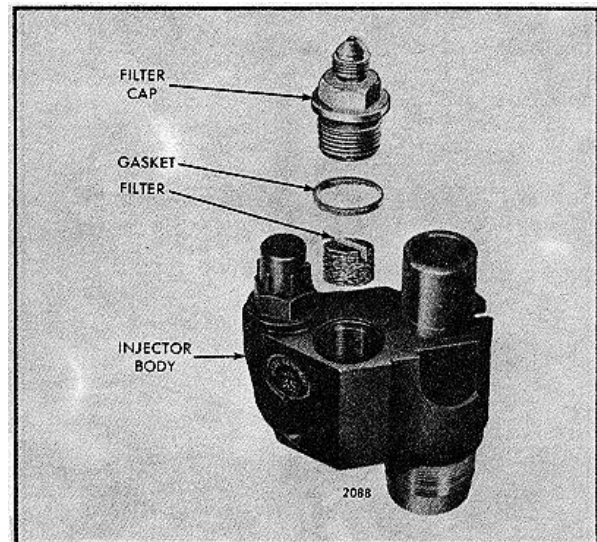

FIG. 30 Details of Injector Filters and Caps and Their Relative Location
Use an extremely clean bench to work on and to place the parts when assembling an injector. Also be sure all of the injector parts, both new and used, are clean. Study Figs. 30 through 32 for the proper relative position of the injector parts, then proceed as follows:
1. While holding the injector body right side up, place a new filter, slot in the filter up or toward the filter cap, in each of the fuel cavities in the top of the injector body (Fig. 30).